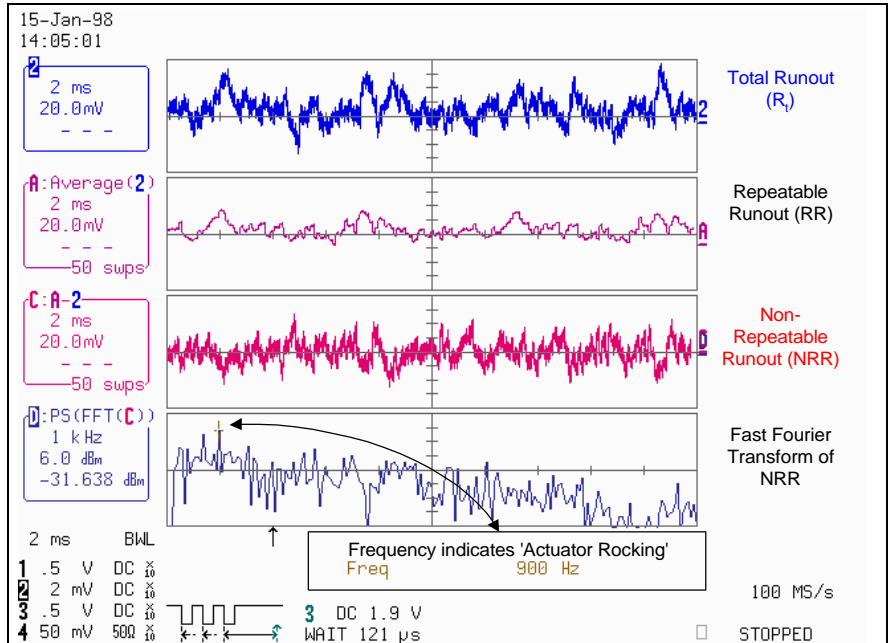

Figure 3
Figure 3 shows how LeCroy scopes can measure Runout. Total Runout (R_t) is PES (Trace 2) for a revolution of the disk. Repeatable Runout (RR) is the averaged PES signal (Trace A). Non-Repeatable Runout (NRR) is RR minus R_t (Trace C).
The frequency spectrum of NRR (Figure 3, Trace D) can be used to determine the cause of problems such as actuator 'rocking', bearing defects and servo system noise.